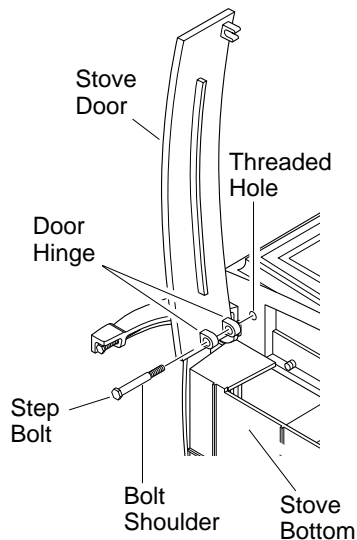

Figure 12 - Attaching Stove Door
10. Attach stove door by inserting step bolt through door hinge pivot hole and into threaded hole in stove body (see Figure 9, page 5 and Figure 12). Use an adjustable wrench or a 12mm socket to fasten step bolt. Tighten step bolt until snug. Make sure door moves freely.